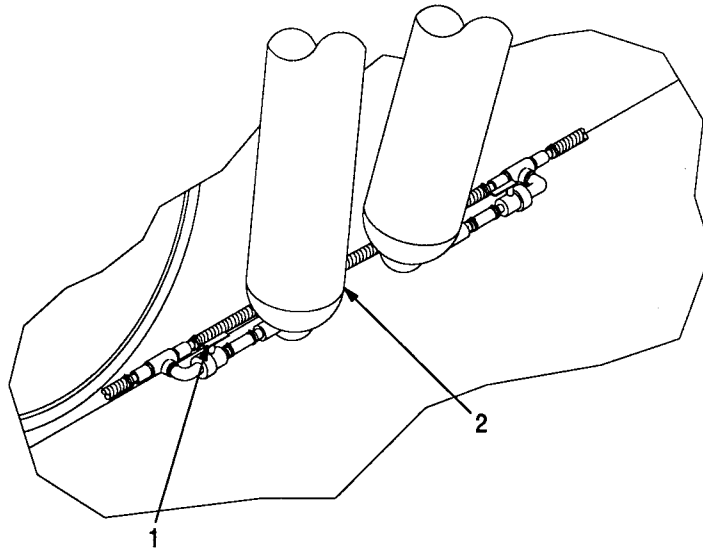

Figure 2-59. Failed Air Beam
- b. Should an air beam fail, close shut-off valve (1, figure 2-59) at bottom of failed air beam (2) and notify unit maintenance.